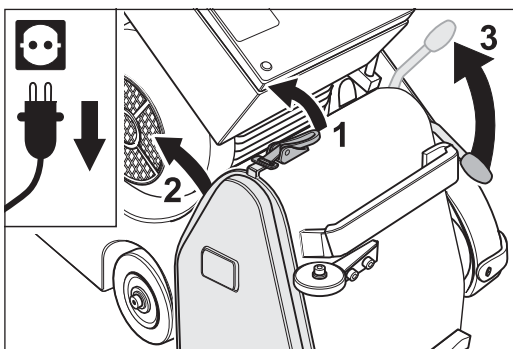

Fig. 35 Release the cover lock (1), remove the side cover (2) and lower the tensioning roller by pulling up the operating lever (3).
- 3 Release the cover lock (fig. 35, 1) and remove the side cover on the right of the machine housing (fig. 35, 2).
- 4 To release the tension of the sanding belt, pull the operating lever of the drive unit upwards (fig. 35, 3). This will lower the tensioning roller.